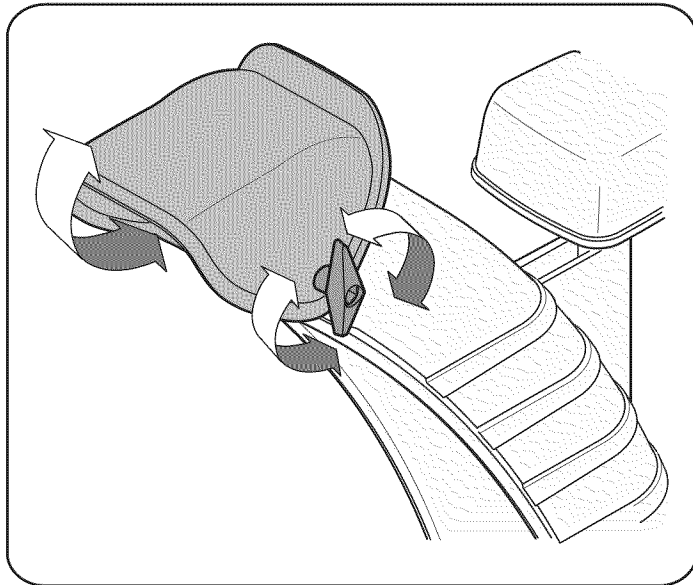

Figure 10
2. Pivot the chute upward or downward before retightening the wing knob. See Figure 10.